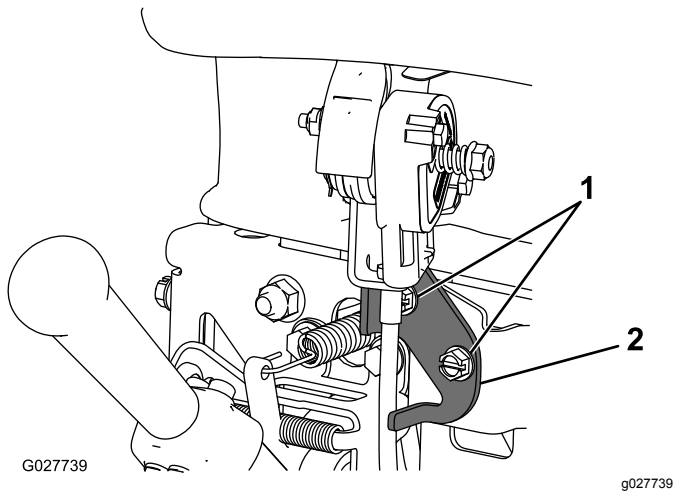

Figure 31
2. Loosen the 2 fasteners securing the throttle control (Figure 31).